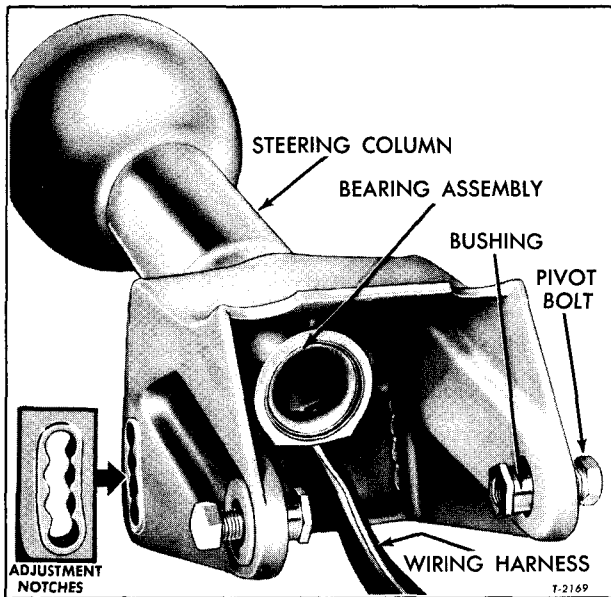

Figure 20—Steering Column Upper Shaft Lower Bearing (Conventional Cab Models) (Typical)
3. Remove steering column from upper shaft assembly. If worn or damaged, pry bearing assembly from lower end of steering column (refer to fig. 20).